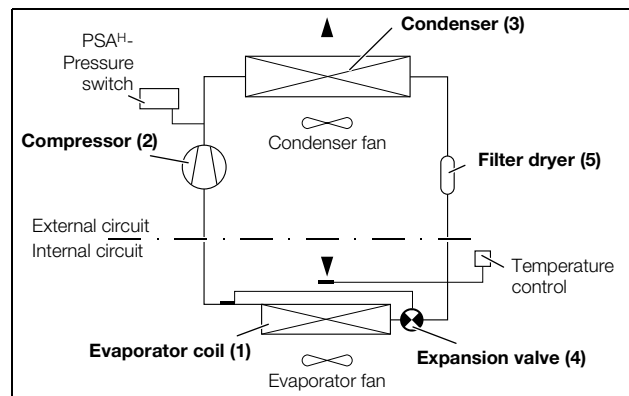

Fig. 3: Cooling circuit
The cooling unit (compression refrigeration system) comprises four main components (see fig. 3): the evaporator (1), the refrigerant compressor (2), the condenser (3), and the control or expansion valve (4), which are connected by suitable pipework. This circuit is filled with a readily boiling substance, the refrigerant. The refrigerant R134a (CH2FCF3) is chlorine-free. Its Ozone Depletion Potential (ODP) is 0, making it very eco-friendly. A filter dryer (5) which is integrated into the hermetically sealed cooling circuit provides effective protection against moisture, acid, dirt particles, and foreign bodies within the cooling circuit.